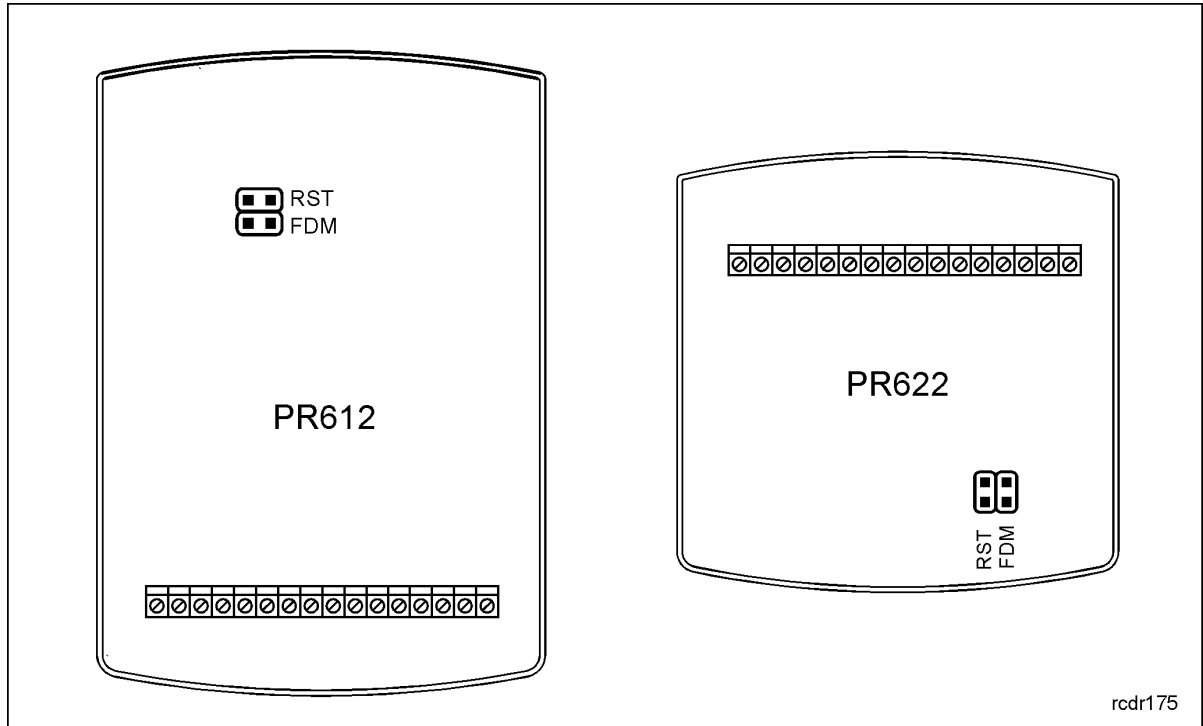

Fig. 5 Location of FDM and RST contacts inside the enclosure of PR612/PR622 controller
- Restart the controller (place and remove jumper on RST contacts – see fig. 5 or switch power supply off/on)